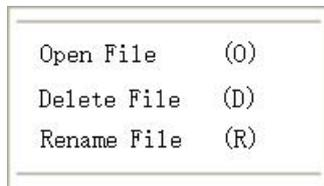

Figure 4-22B
- ① Open Folder: Open the selected folder.
- ② Delete Folder: Delete the selected folder.
- ③ Rename Folder: Rename the selected folder.
- 2)File right-click menu (Figure 4-22B).